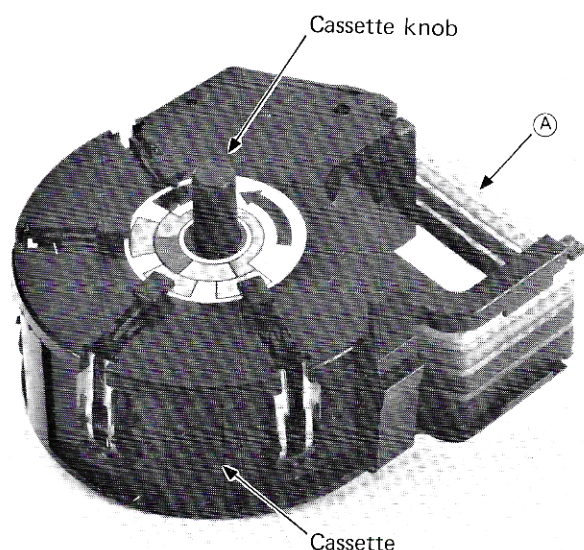

Figure 4
- b) Turn the cassette knob in the direction of the arrow to draw the ribbon taut (figure 4).